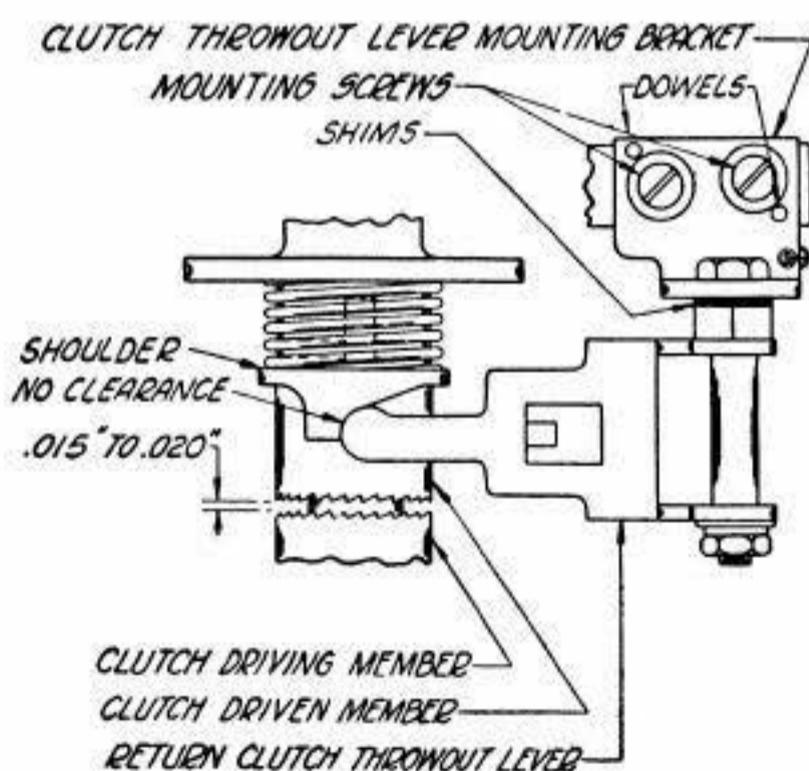

Fig. 14
(2) To adjust, add or remove shims on the throwout-lever stud to obtain this clearance. **Fig. 14**